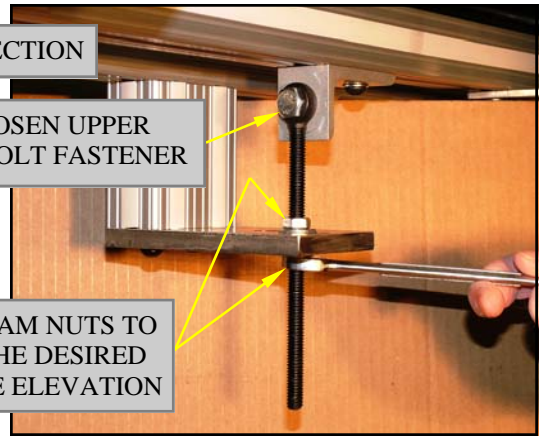

Figure 7
- B. Loosen the upper eye bolt fastener on the adjusting screws to allow discharge section to raise or lower freely. (Figure 7)
- C. Raise or lower the jam nuts on the adjusting screw. (Figure 7)